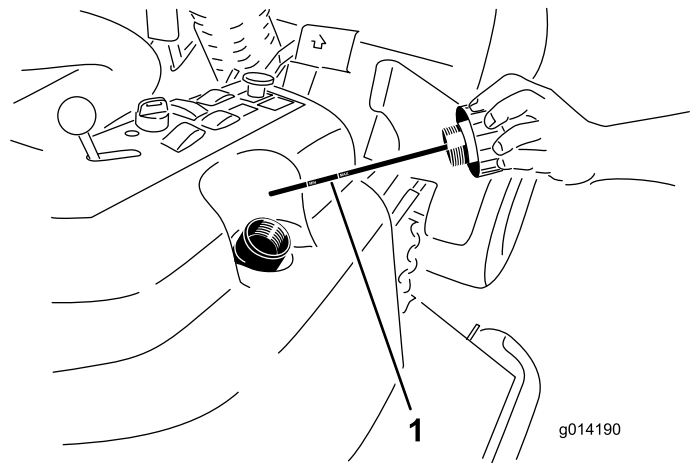

Figure 53
2. Remove the hydraulic fill cap (Figure 53) from filler neck.
3. Remove the dipstick and wipe it with a clean rag (Figure 53).
4. Screw the dipstick all the way into the filler neck; then remove it and check level of fluid (Figure 53).